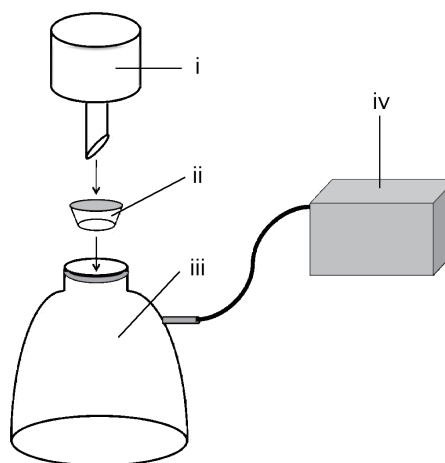

Fig. 1.3 Suction filtration equipment: i, Büchner funnel; ii, rubber adapter; iii, suction flask; iv, diaphragm vacuum pump.
(6) Set up the suction filtration equipment (see Fig. 1.3). Connect the suction flask to the diaphragm vacuum pump. Place a Büchner funnel fitted with a rubber adapter onto the suction flask. Place a glass microfiber filter sheet on the funnel.
(7) Add water (5 mL) to the reaction mixture using a 10-mL plastic graduated cylinder. Add sodium metabisulfite (1 g), transfer the contents of the tube (including the stirring bar) into a 200-mL conical beaker and wash the